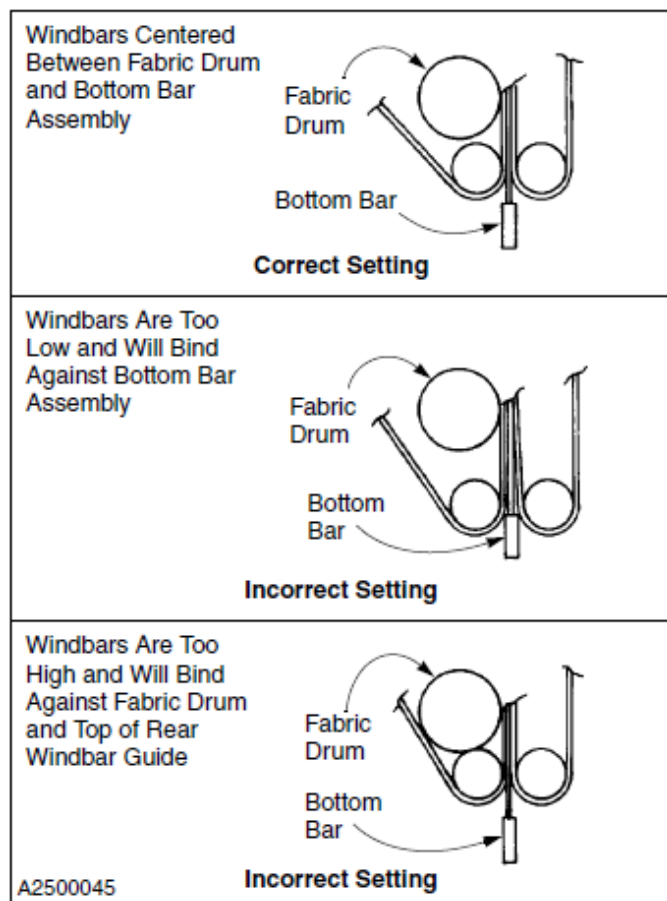

Figure 36
3. Inspect all strapped windbars (if installed). A front, strapped windbar should fall between the bottom of the fabric drum and the top of the bottom bar. A rear, strapped windbar should fall between the upper end of the rear windbar guide and the top of the bottom bar. (With front and rear windbars installed, once the front windbar is positioned, the rear windbar should fall directly behind it.) (See Figure 36)